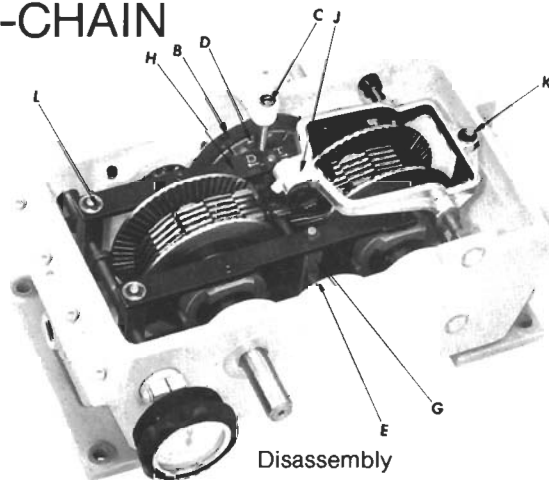

Figure 1
To remove the upper housing, take off inspection cover and remove blocking screw (C) (Figure 1). Remove the bolts at each end of the transmission and eight bolts inside the transmission. Six of these bolts can be removed through the inspection cover. The remaining two can be reached through the oil breather plug hole on each side of the nameplate. The top shoe (J) will be removed with the upper half of the housing. Caution should be exercised in removing the spring support rod (K) to retain the spring and washer with the spring support rod.
- Support upper shoe (J) (Figure 1) in position away from chain. (Except Size 0, which has no tensioning shoes.)
- Remove blocking screw (C).
- Turn-tension flange (D) in direction marked "D" as shown on control lever (H) to slacken chain. (Use screwdriver in slots of flange.)